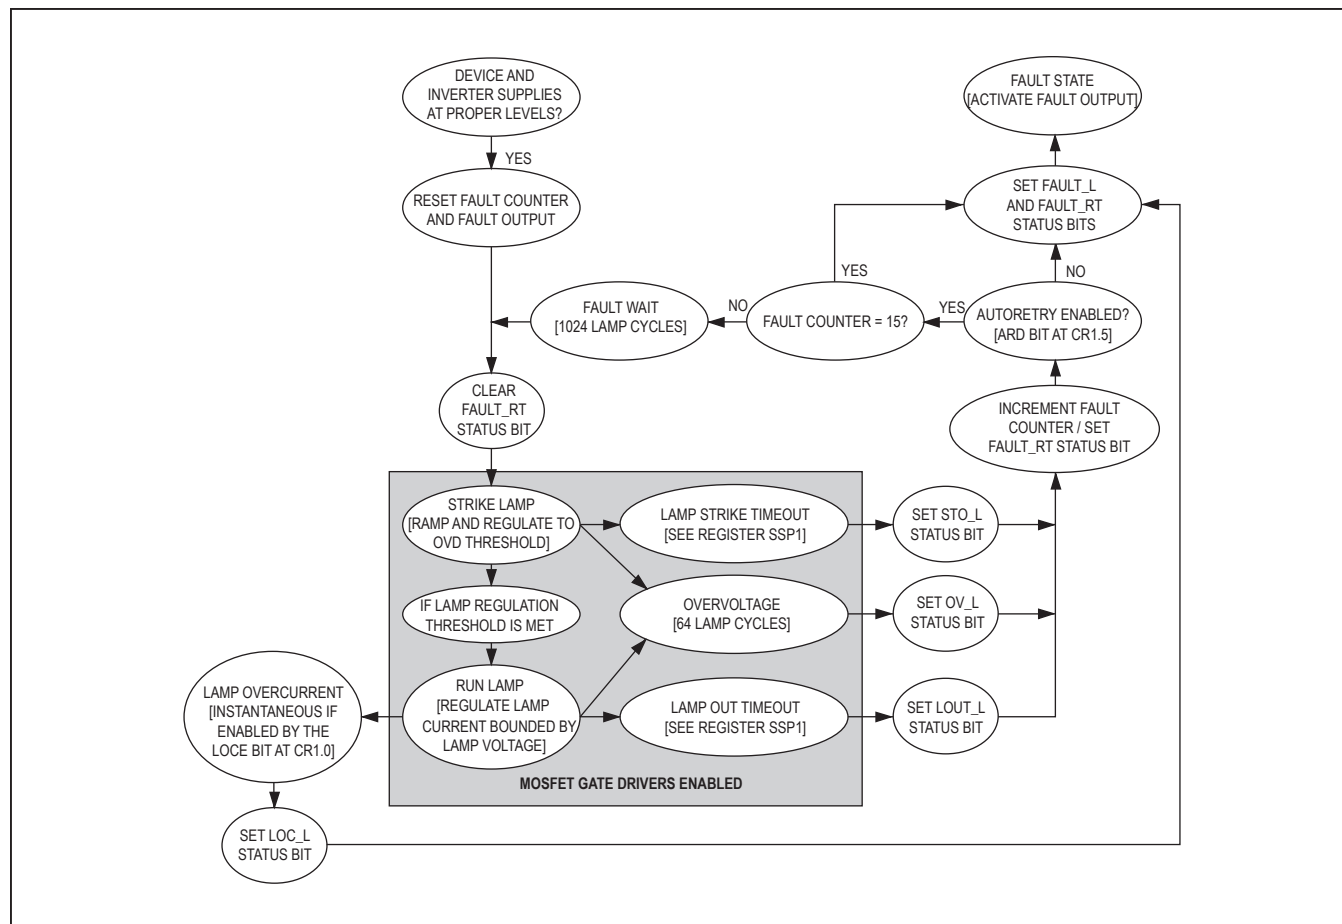

Figure 8. Fault-Handling Flowchart
Figure 8 shows a flowchart of how the DS3882 controls and monitors each lamp. The steps are as follows:
**Note 2:** See Figure 8 for more details on how the status bits are set.